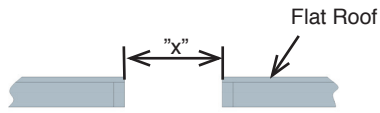
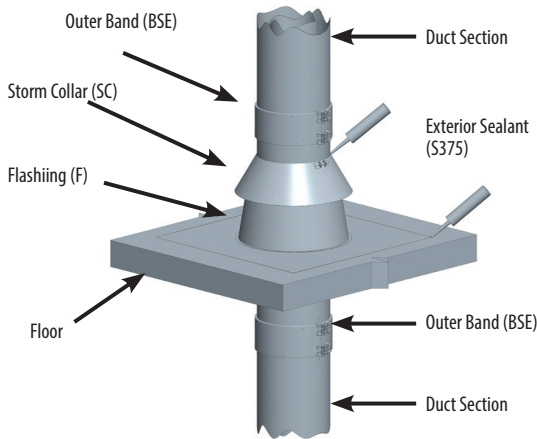

Figure 50 - Minimum Opening for flat roof
Figure 52 - Installation of Flashing-View Top of the Roof
1. Cut opening to dimensions specified in Table 5. See Figure 50 for flat roof and Figure 52 for a sloped roof.
5. The Storm Collar (SC) is placed around the chimney and sealed to the casing with outer joint sealant S-350. See Figure 52 for an installed Flashing (F)